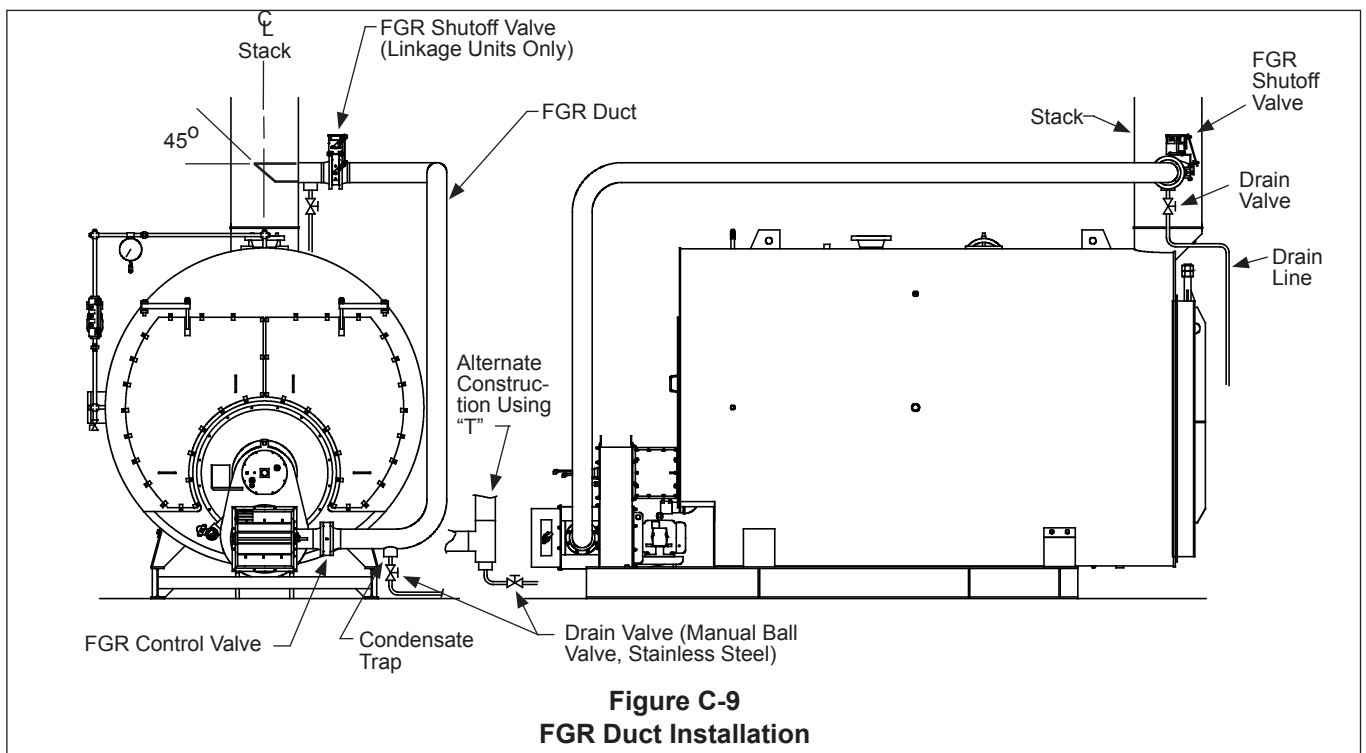

Figure C-9
For example, consider the arrangement shown in Figure C-9. There will be three long radius 90 degree elbows and 42 feet of straight pipe. If 12" pipe is used, then the total equivalent length will be:
- a. Normally the duct would connect to the stack as shown in Figure C-9, with a 45 degree cut facing the flue gas flow and with the center of the cut centered in the stack.